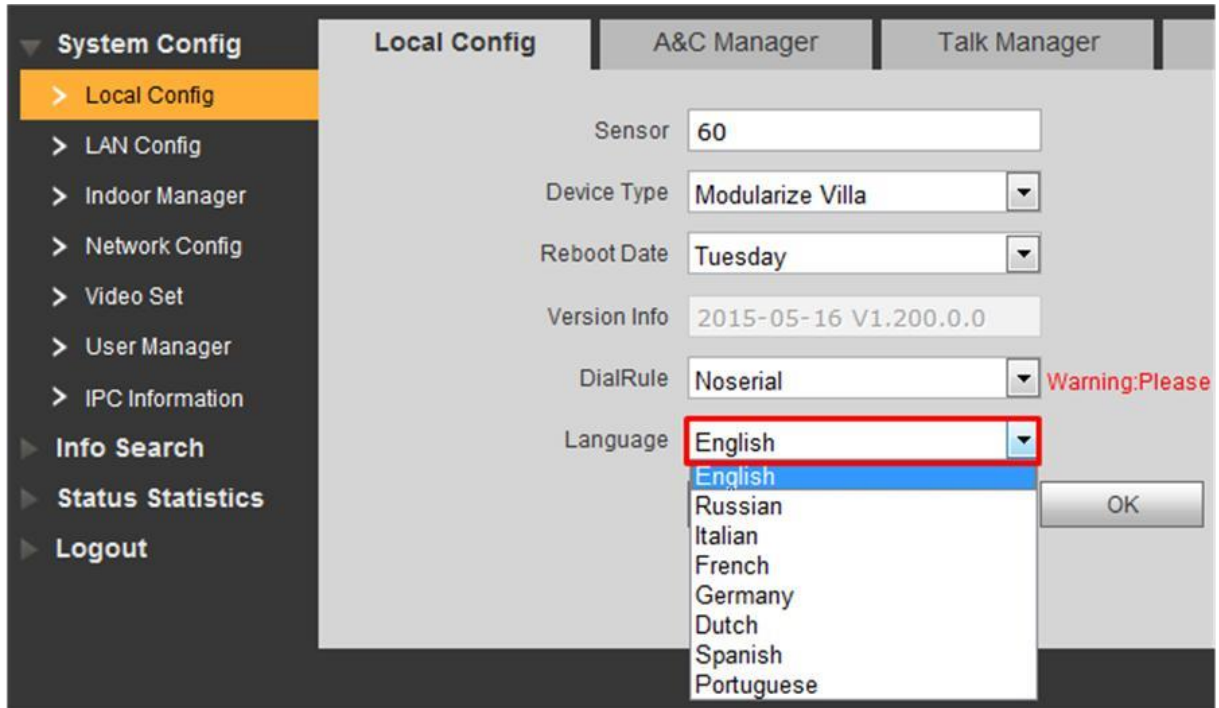

Figure 2-3
- a) Please use the PC to access the VTO. Open the browser and then input the VTO IP address. Click the Enter, input user name and password to login. System supports English, Russian, Italian, French, Germany, Dutch, Spanish, and Portuguese by default. See Figure 2-3.